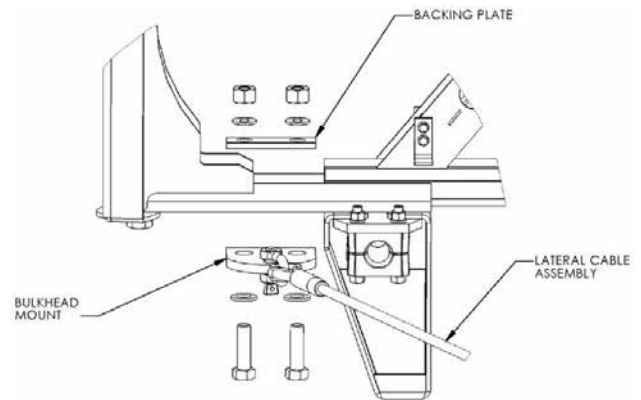
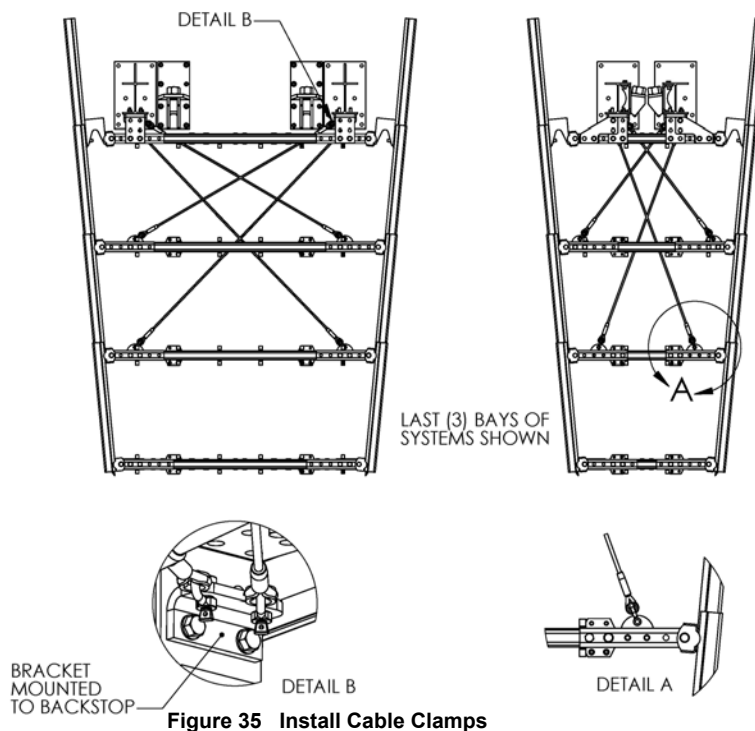

Figure 31 Lateral Support Cable
Figure 35 Install Cable Clamps
The Lateral Support Cables are 1/2" [12mm] diameter and have a 1/2" [12mm] shackle on one end. There are eight (8) cable assemblies in the kit. The shackles pin to the cable mounts on the bulkheads and Wide Flange Backstops (Figure 31, 32, 33, 34, 35). The two cables from each backstop are routed to the opposite sides of the last two bulkheads (Figure 35).